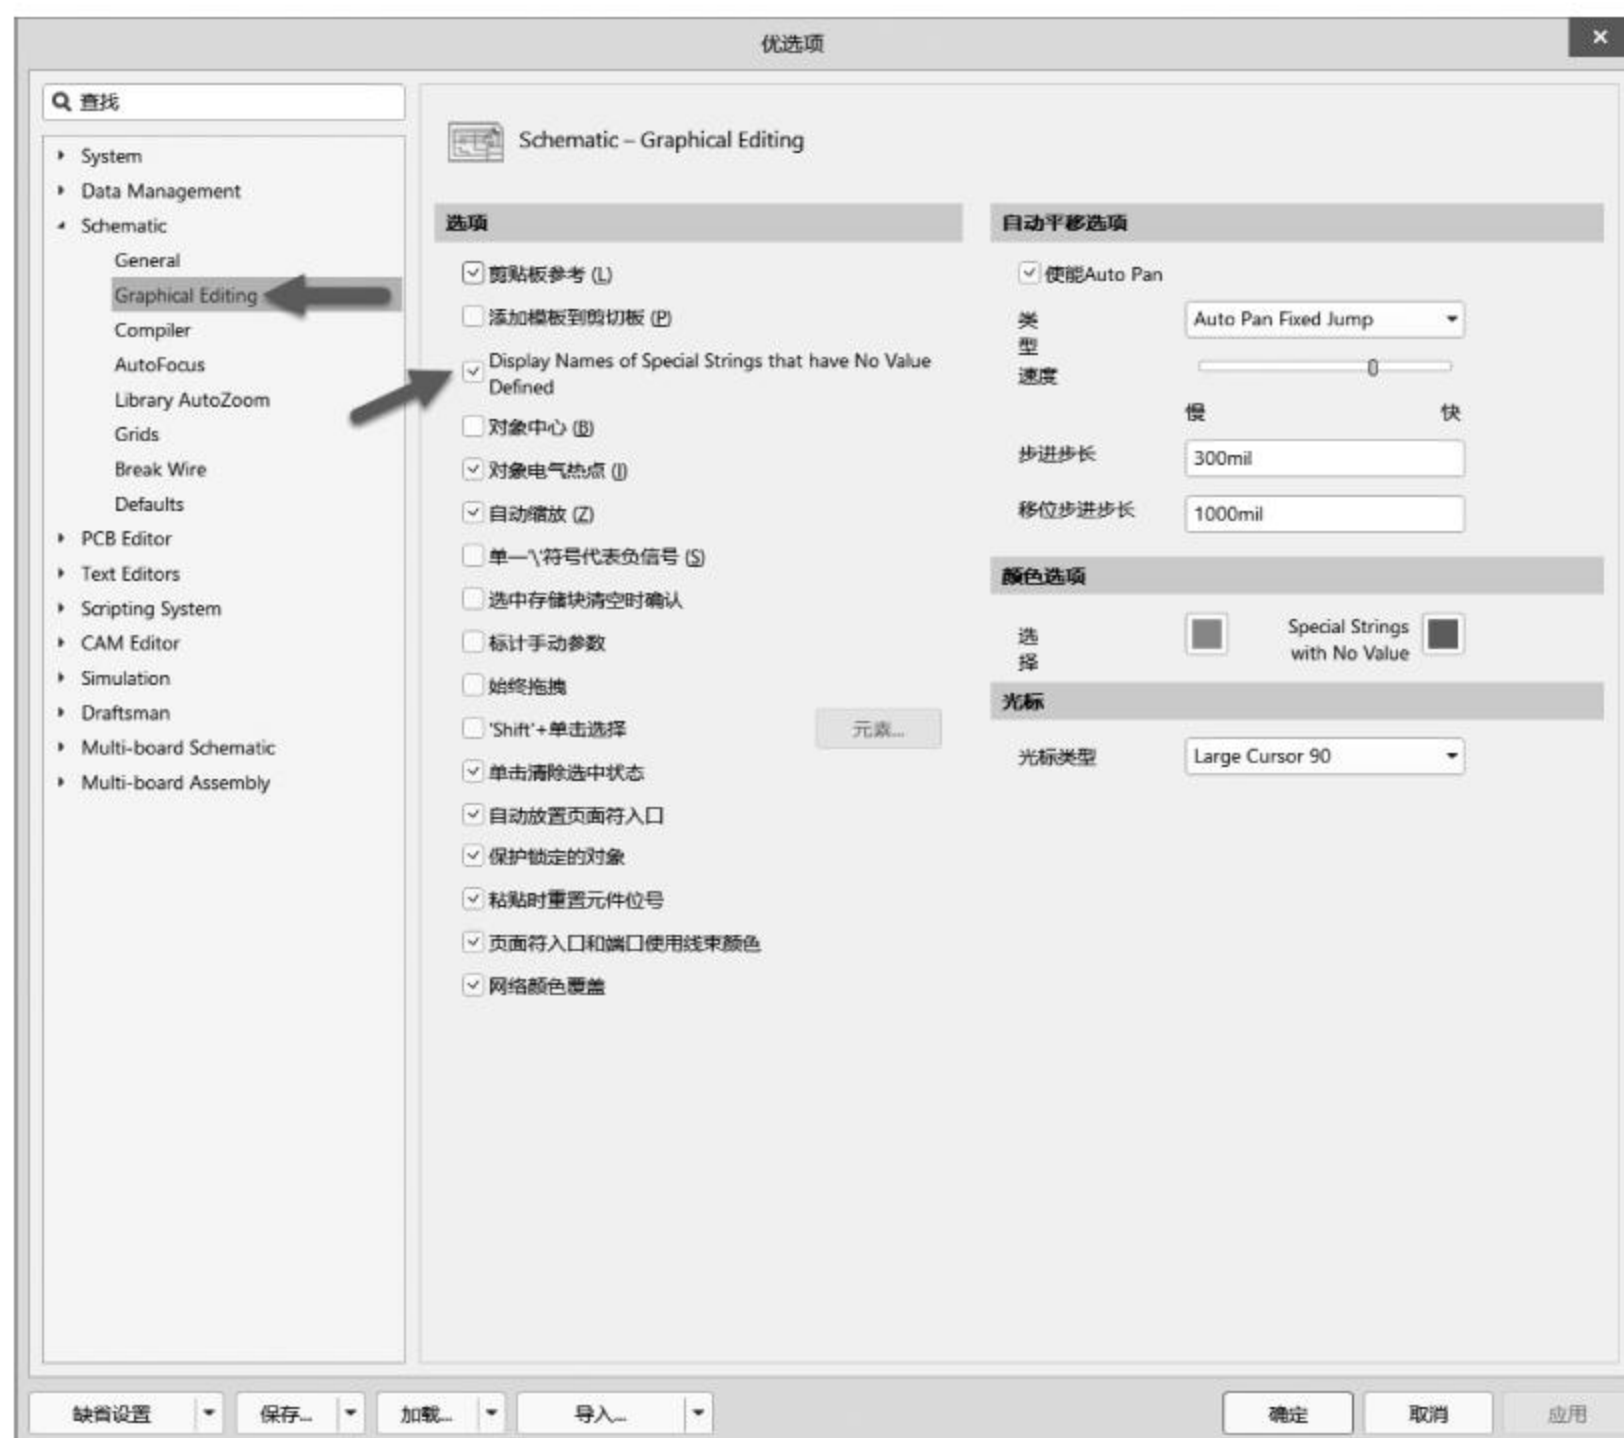

图 4-15 勾选 Display Names of Special Strings that have No Value Defined 复选框
(2) 在 Graphical Editing 子选项卡中勾选 Display Names of Special Strings that have No Value Defined 复选框,否则特殊字符将不能正常转换,如图 4-15 所示。